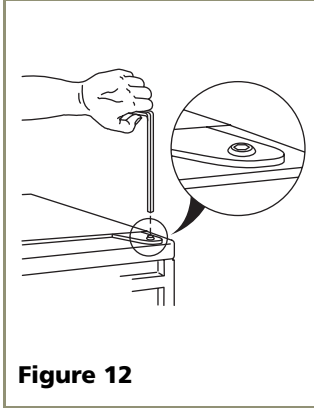

Figure 12
2. Remove top hinge screw pin (7/64" Allen wrench or Phillips screwdriver, depending on your unit's construction, see **Figure 12**). Remove door by tilting forward and lifting off bottom hinge pin.